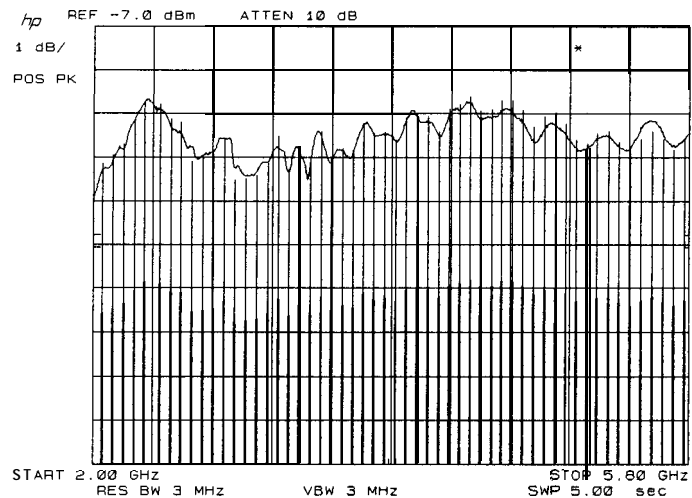

Figure 3-96.
78. Press **SWEEP (SINGLE)** on the spectrum analyzer and wait for the sweep to complete (150 seconds) and the SWEEP LED to turn off. As the spectrum analyzer tunes from **2.0 GHz** to **5.8 GHz**, the spectrum analyzer frequency response should be displayed as **TRACE B**, as shown in Figure 3-96.